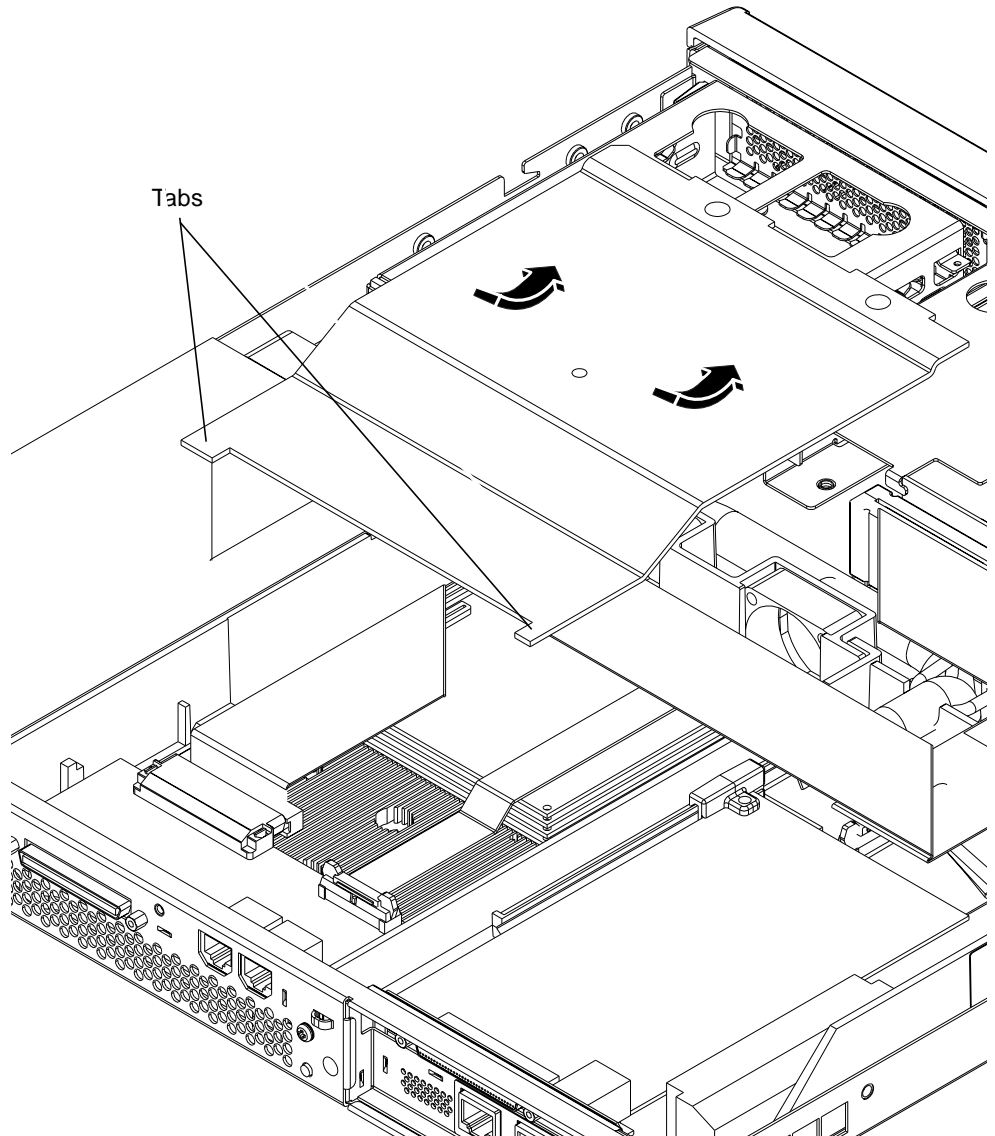

FIGURE A-7 Lifting out the Processor Cover
2. Lift out the processor cover located in the rear center of the unit (see FIGURE A-7). Make sure you slide the processor cover tabs from under the rear I/O card before lifting the processor cover away from the system.